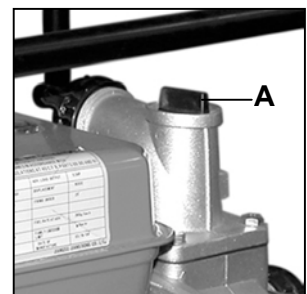

Figure 3
5. Set the engine switch to the “on” position. (Figure 3)
2. Remove the Priming Plug (A, Figure 3)